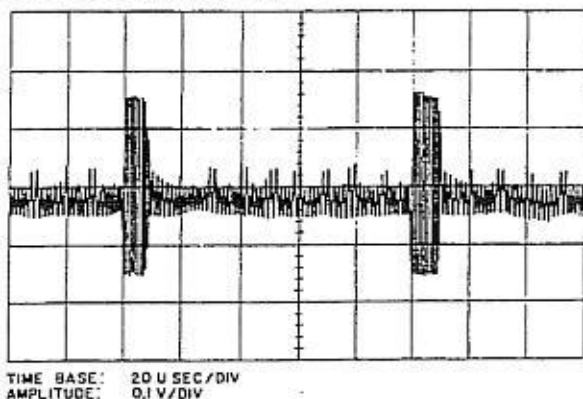

Figure 6.18 — Terminal E89 Waveform
l. Reconnect oscilloscope to terminal E89. The observed 10 kHz spectrum waveform should resemble the one shown in figure 6.18.